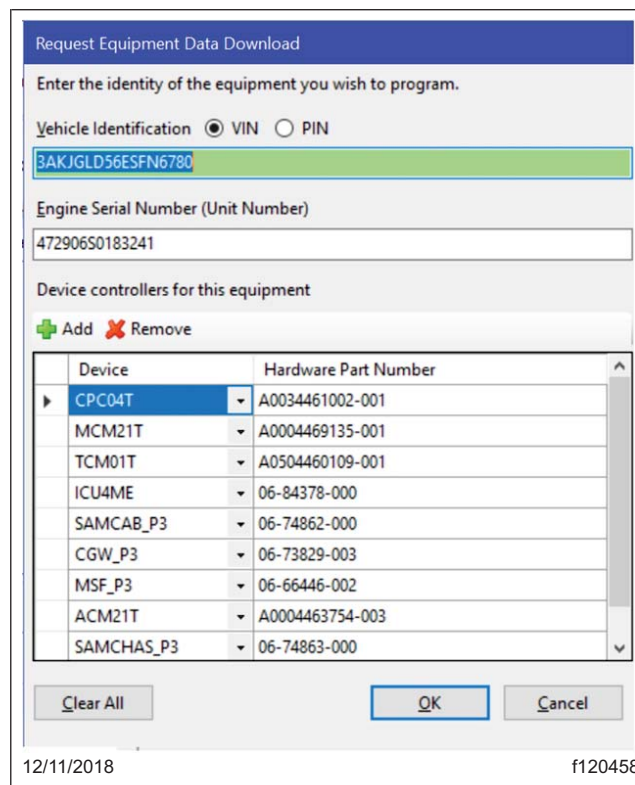

Fig. 7, Verifying Correct VIN Hardware
8. Make sure the correct VIN and hardware is populated, then click OK. See Fig. 7.